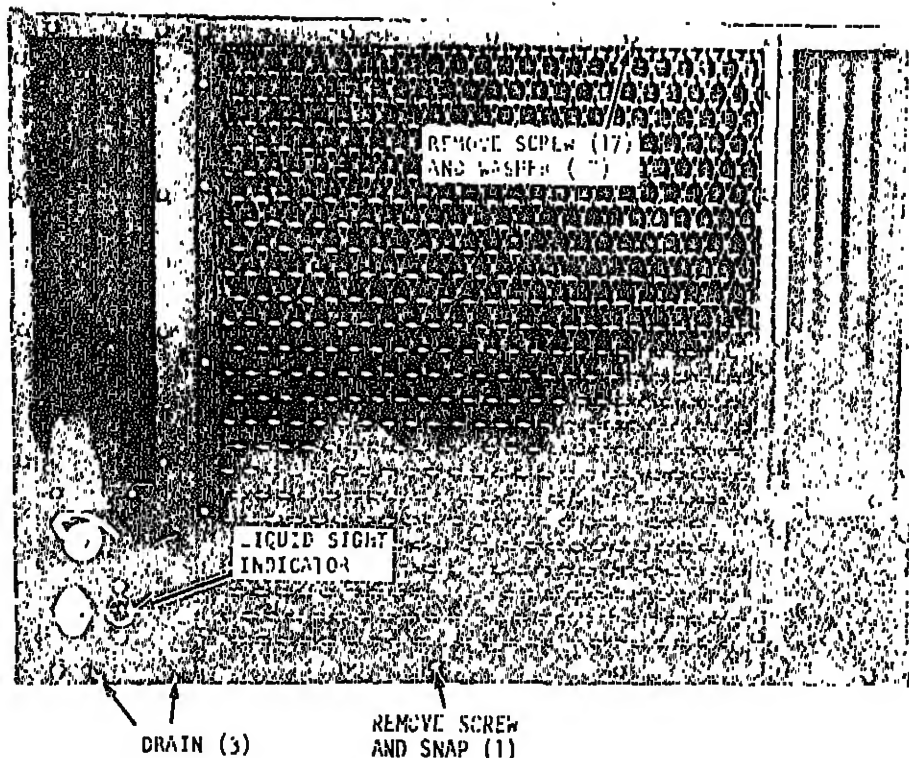

Figure 4-3. Condenser guard removal and installation
(1) Refer to figure 4-3 and remove condenser guard.
(2) With guard removed, wipe condenser coil clean.
(1) Refer to figure 4-3 and install guard.